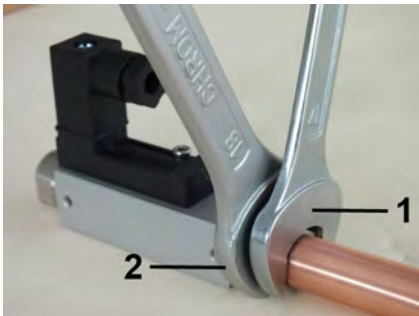

Fig. 10: Screw in the device
2. ➔ Fasten the adapter union of the pipeline with an appropriate spanner (Fig. 10/1). When doing so, lock the process connection of the device in place to prevent slip, using a suitable spanner (Fig. 10/2).